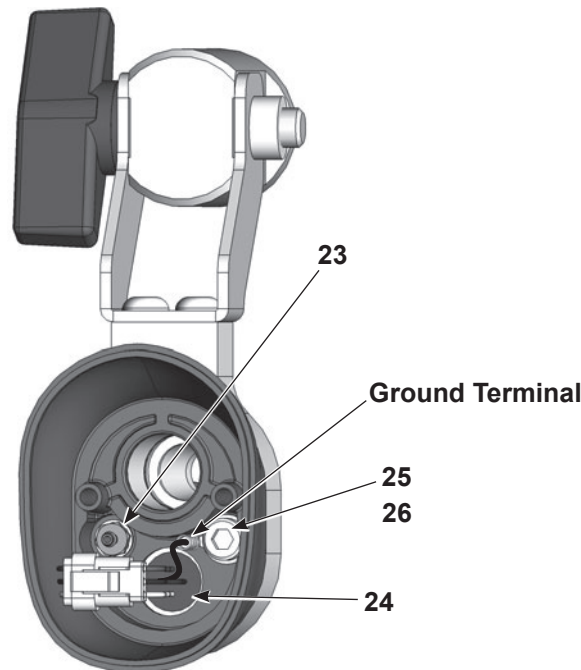

Figure 17 Gun Disassembly - Cable Receptacle and Barbed Fitting Replacement
5. Insert a small flat-bladed screwdriver into the slot on the harness connectors and separate the receptacle harness (24) from the power supply harness.
6. See Figure 17. Disconnect the clear air wash tubing from the barbed fitting (23) inside the rear body.
- a. See Figure 17. Use a 4-mm hex wrench to remove the hex head screw (25) and washer (26) and disconnect the ground terminal.
- g. See Figure 17. Connect the ground terminal to the end cap with the hex head screw and washer (25, 26).
16. See Figure 17. Connect the air wash tubing to the barbed fitting, and the power supply harness to the cable receptacle harness.